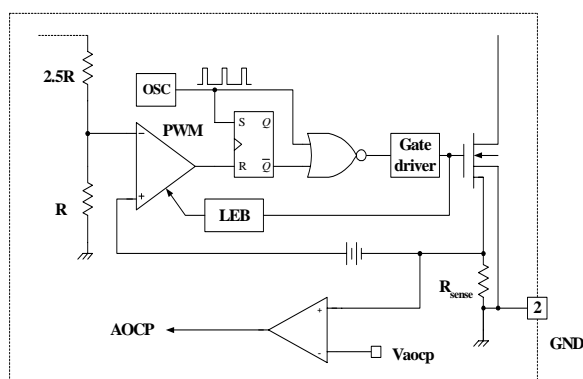

Figure 14. AOCP block
4.2 Abnormal Over Current Protection (AOCP) : When the secondary rectifier diodes or the transformer pins are shorted, a steep current with extremely high di/dt can flow through the SenseFET during the LEB time. Even though the FSCQ1565RT has OLP (Over Load Protection), it is not enough to protect the FSCQ1565RT in that abnormal case, since severe current stress will be imposed on the SenseFET until OLP triggers. The FSCQ1565RT has an internal AOCP (Abnormal Over Current Protection) circuit as shown in Figure 14. When the gate turn-on signal is applied to the power Sense FET, the AOCP block is enabled and monitors the current through the sensing resistor. The voltage across the resistor is then compared with a preset AOCP level. If the sensing resistor voltage is greater than the AOCP level, the set signal is applied to the latch, resulting in the shutdown of SMPS. This protection is implemented in latch mode.